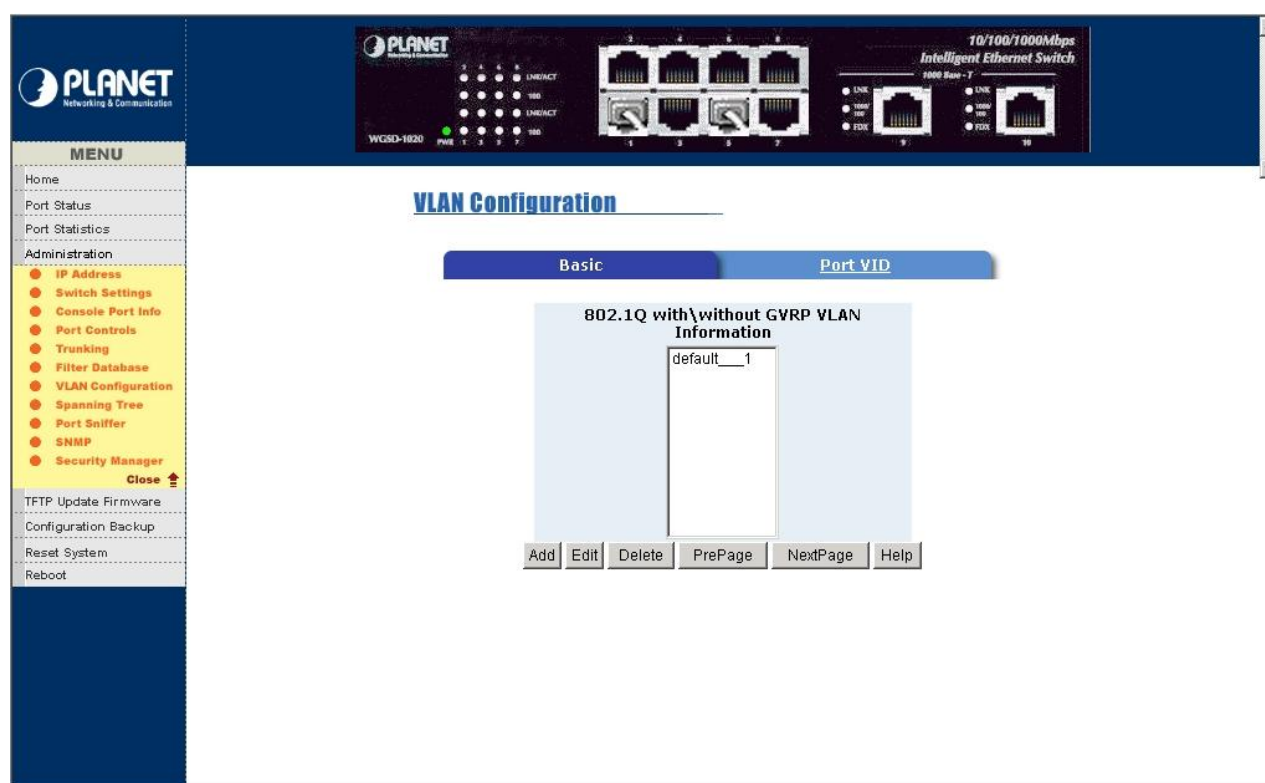

Figure 5-27 WGSD-1020 Tag-based (IEEE 802.1Q) VLAN Web Page screen
1. From the main menu , click administrator →VLAN configuration. The screen in Figure 5-27 appears.